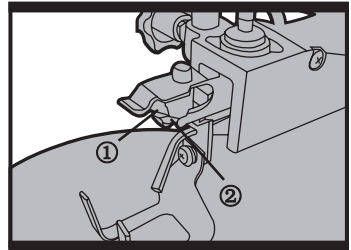

Fig.C3
The blade holder has two slots to provide two blade positions. Use slot ① to cut in line with the radial arm. Use slot ② to cut at right angles to the radial arm. (Fig.C3)